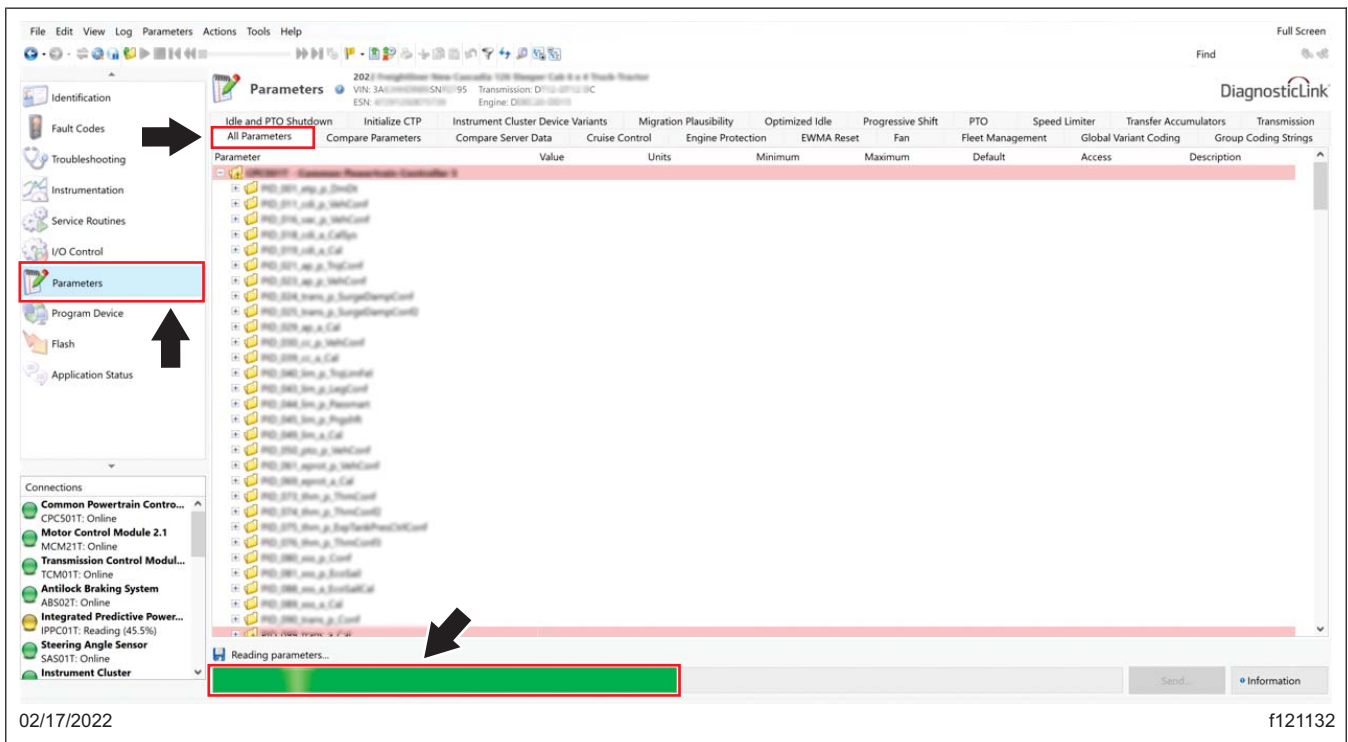

Fig. 2, Reading Parameters
6.1 Go to the 'Parameters' tab, then select 'All Parameters.' See Fig. 2.